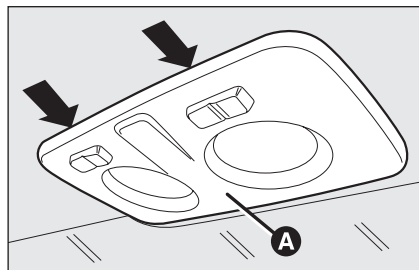
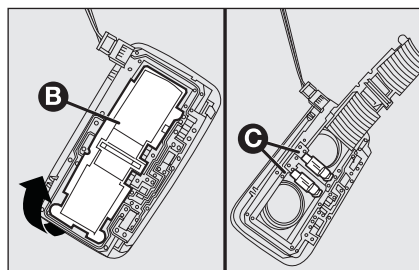

fig. 36
fig. 37
- ☐ work in the points shown by the arrows and remove light **A**-fig. 36;
- ☐ open the protection lid **B**-fig. 37;
- ☐ re-close the lid **B**-fig. 37 and secure light **A**-fig. 36 into its housing locking it properly.